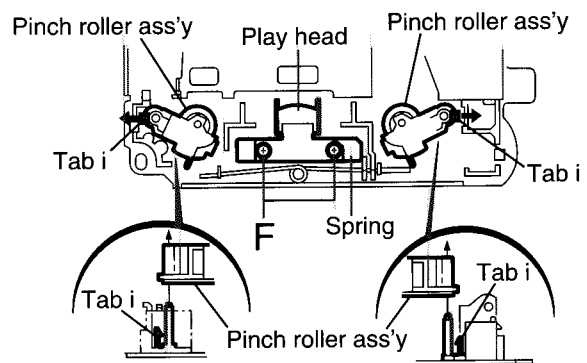

Fig.9
(See Fig.9 and 10)
■ Removing the play head (See Fig.9)
■ Removing the pinch roller ass'y (See Fig.9)